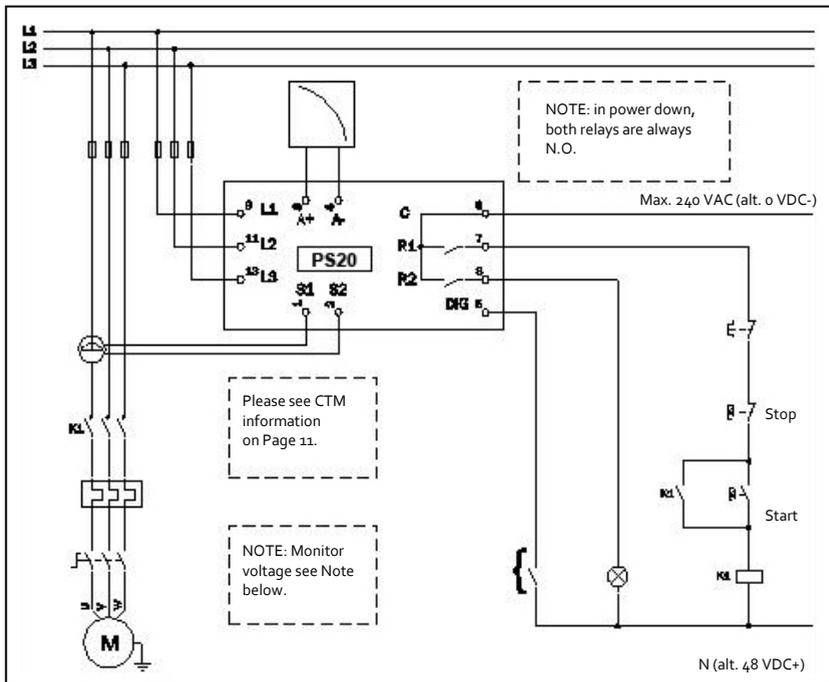
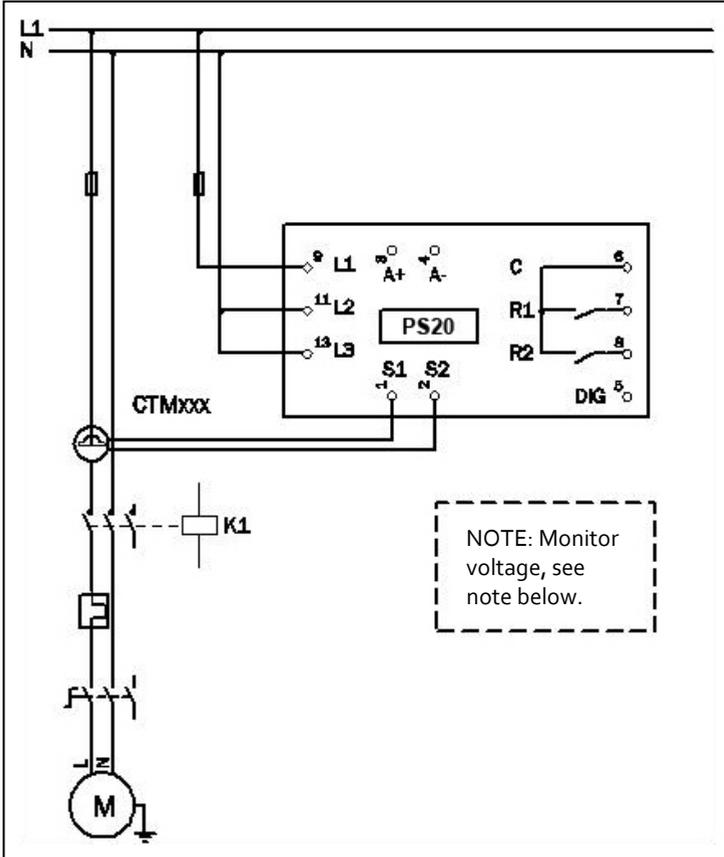

Fig. 1 Connection example
Fig. 2 Single-phase connection example.
1. Connect the ITT Goulds Pumps PS20 according to chapter 5 and Fig. 1.
The following wiring diagram provides an example of how the PS20 can be connected to control the start/stop circuit of a three-phase motor, Fig. 1. Connections to a single-phase motor are described later in this manual, (Fig. 2) as are the programming changes necessary for such applications. The default setting for the PS20 is 3-phase.
1. The current transformer CTMxxx must be placed in the same phase that is connected to terminal 9, phase L1, see Fig. 1. Failure to follow this requirement will result in the monitor failing to function.
2. For single-phase connection see fig 2.
**Note: The current transformer (CTMxxx) must be placed in the same phase that is connected to terminal 9, phase L1, see Fig. 1.**
**NOTE:** If the START/STOP is connected as per Fig. 1, it is recommended that terminals 6 and 7 be bypassed during programming. After the programming is completed the bypass must be taken out. Make sure that the monitor voltage range e.g. 3x380-500 VAC matches the connected motor/line voltage, e.g. 3x 400 V.
This wiring example shows the connections required for single-phase applications. Refer to Fig. 1 for the remaining wiring.
**NOTE:** In Fig. 2 make sure that the monitor voltage range e.g. 1x100-240 VAC matches the connected motor/"line - neutral" voltage, e.g. 1x 230 V.
The digital input uses terminals 5 (DIG) and 6 (C - reference). Either a VAC or a VDC signal may be used. Connect + to terminal 5 (DIG) and - to terminal 6 for VDC signal. Please note the polarity when DC voltage is used. See also Fig1 and terminal 6: Max. 240 VAC (or 0 VDC-) and on terminal 5: N (or 48 VDC+). See also chapter 9, Advanced Features.